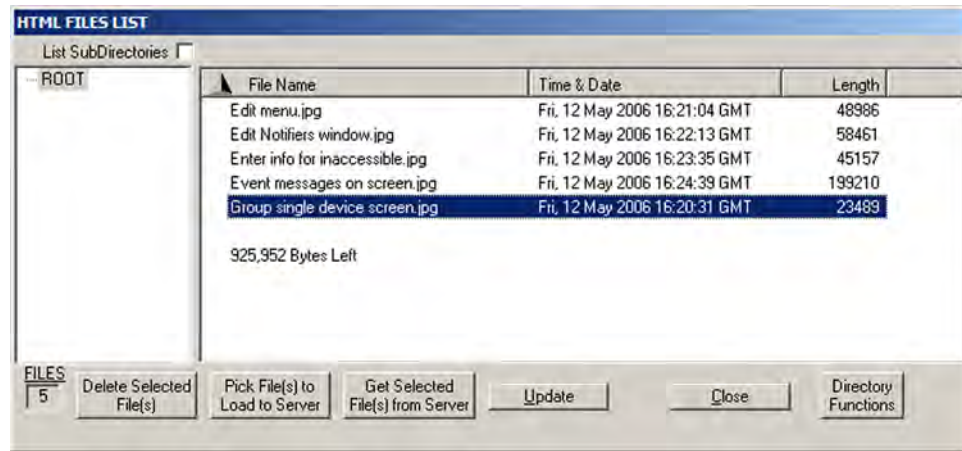

Figure 82. HTML Files List Window
- The files listed in figure 82 are shown for example only and may not be present on your switcher.